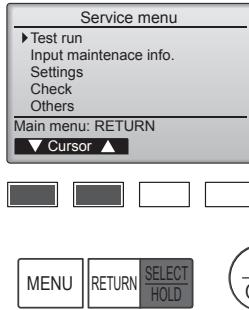

Fig. 6-3
③ Select "Test run" with the [F1] or [F2] button, and press the [SELECT/HOLD] button. (Fig. 6-3)